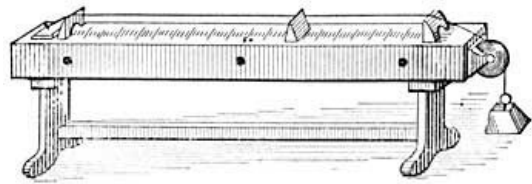

FIG. 181.—The length of a string influences the pitch.
**267. Strings and their Tones.** Fasten a violin string to a wooden frame or box, as shown in Figure 181, stretching it by means of some convenient weight; then lay a yardstick along the box in order that the lengths may be determined accurately. If the stretched string is plucked with the fingers or bowed with the violin bow, a clear musical sound of definite pitch will be produced. Now divide the string into two equal parts by inserting the bridge midway between the two ends; and pluck either half as before. The note given forth is of a decidedly higher pitch, and if by means of the siren we compare the pitches in the two cases, we find that the note sounded by the half wire is the octave of the note sounded by the entire wire; the frequency has been doubled by halving the length. If now the bridge is placed so that the string is divided into two unequal portions such as 1:3 and 2:3, and the shorter portion is plucked, the pitch will be still higher; the shorter the length plucked, the higher the pitch produced. This movable bridge corresponds to the finger of the violinist; the finger slides back and forth along the string, thus changing the length of the bowed portion and producing variations in pitch.